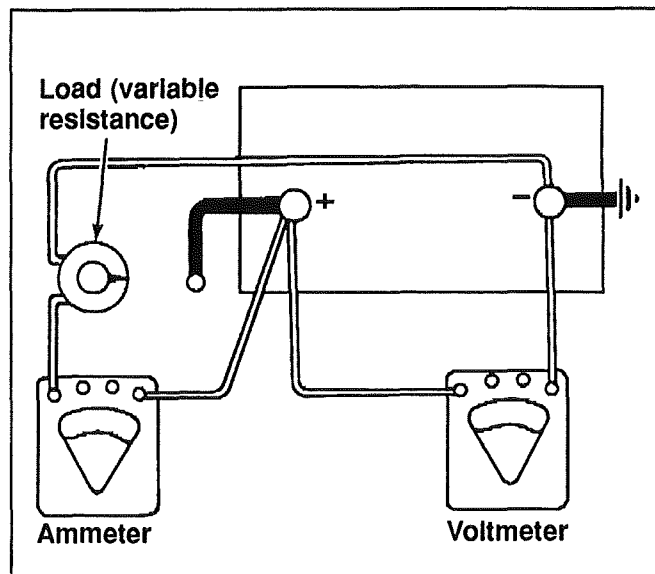

FIG. 14 - Connections for battery load test
1. Connect a voltmeter, ammeter, and a variable load resistance as illustrated in figure 14.